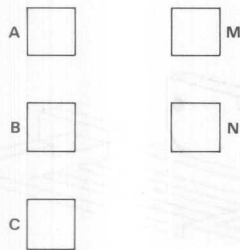

Figure 3-3A. iSBC 604 Cardcage Wirewrap Posts
- 18) Remove the wire connecting wirewrap post B to post N on the original cardcage. Reference figure 3-3A.